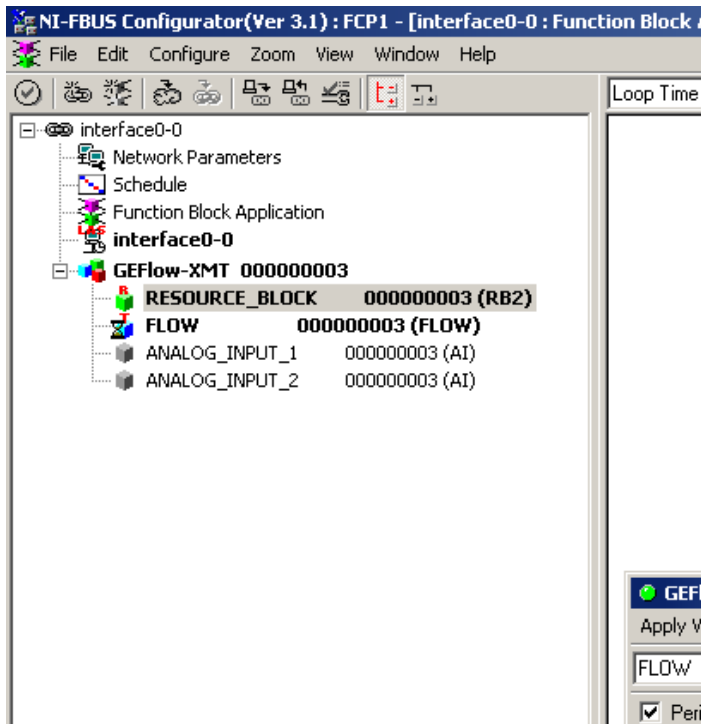

Figure 59: Configuration utility setup Example
Figure 59 below shows the configuration utility with a flowmeter on the network (Panametrics flow-XGF).
1. Double click on the AI block for which you wish to set the units (ANALOG_INPUT_1 or ANALOG_INPUT_2 in the tree under GEFlow-XGF; see *Figure 59 on page 86*).
1. Double click on the FLOW transducer block (in the tree under GEFlow-XGF; see *Figure 59 on page 86*).